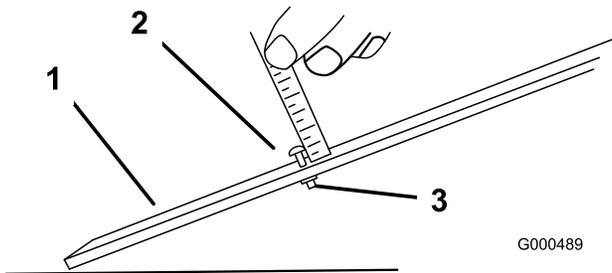

Figure 48
- Loosen the nut on the gauge bar (Figure 48) and set the adjusting screw to the desired height-of-cut. The distance between the bottom of the screw head and the face of the bar is the height-of-cut.